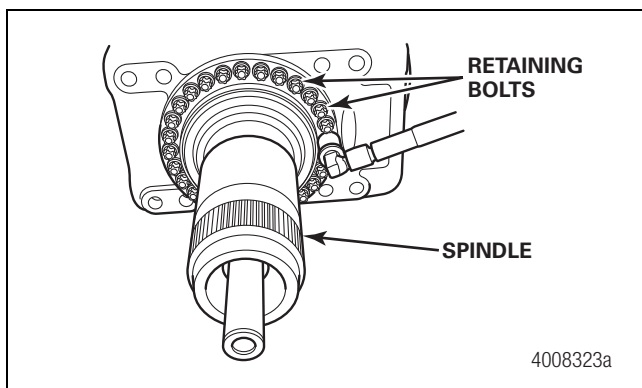

Figure 9.10
14. Install the spindle mounting bolts and tighten to the torque specified in Section 11. Figure 9.10.